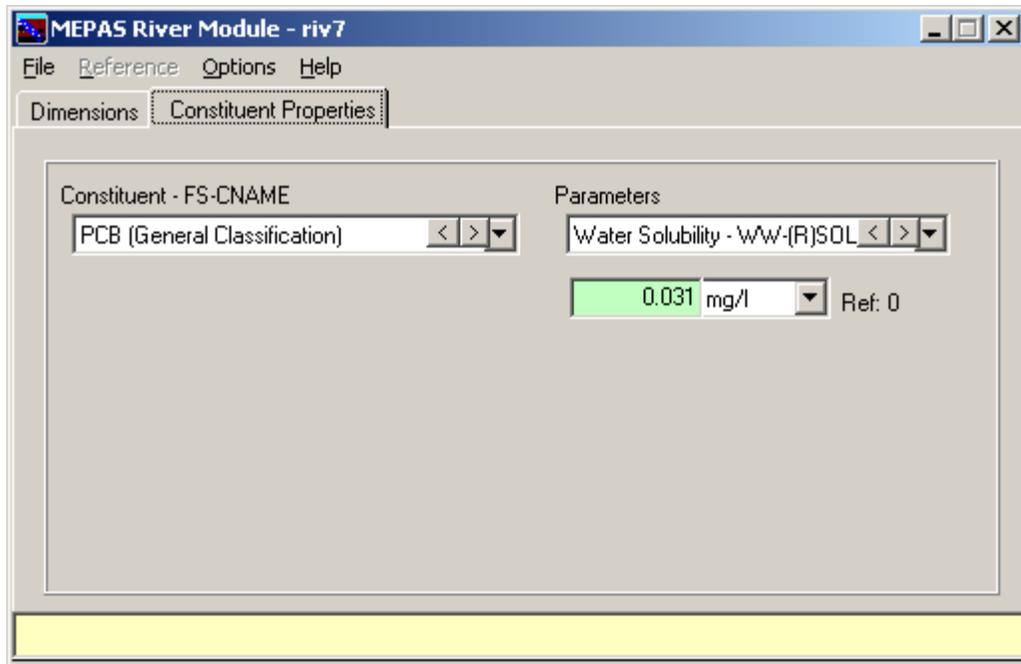

Figure 35. Mepas River Module – Constituent Properties tab
- *Constituent Properties Tab (chemical properties for each constituent) – Figure 35*